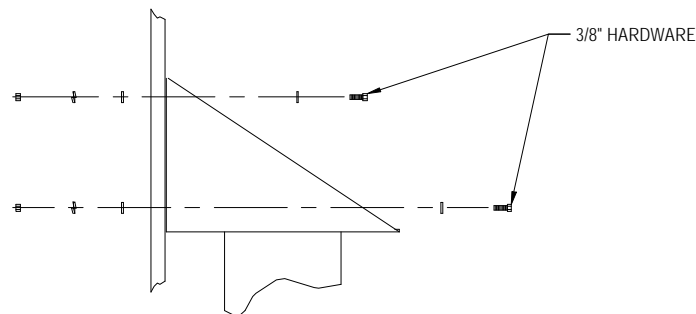

FIGURE 2
3. Attach the Boom Arm to the wall structure using the 3/8" hardware provided (**Figure 2**).